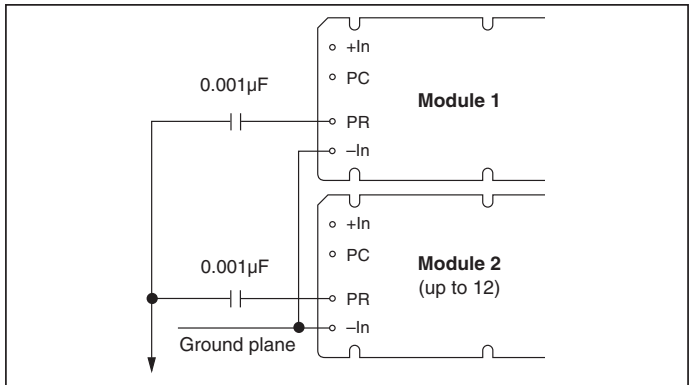

Figure 10—AC coupled single-wire interface.
*AC coupled single-wire interface.* All PR pins are connected to a single communication bus through 0.001  $\mu$ F (500 V) capacitors. This interface supports current sharing and is fault tolerant except for the communication bus. See Figure 10.